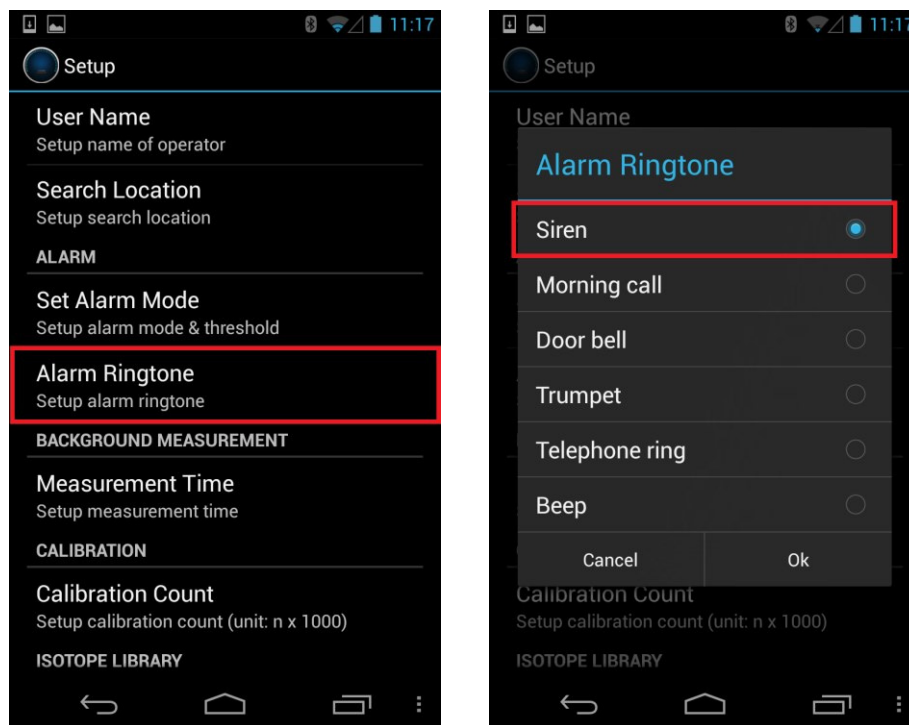

Figure 4.11. Select Alarm Ringtone
1. From the Setup menu, select **Alarm Ringtone** (Figure 4.11)